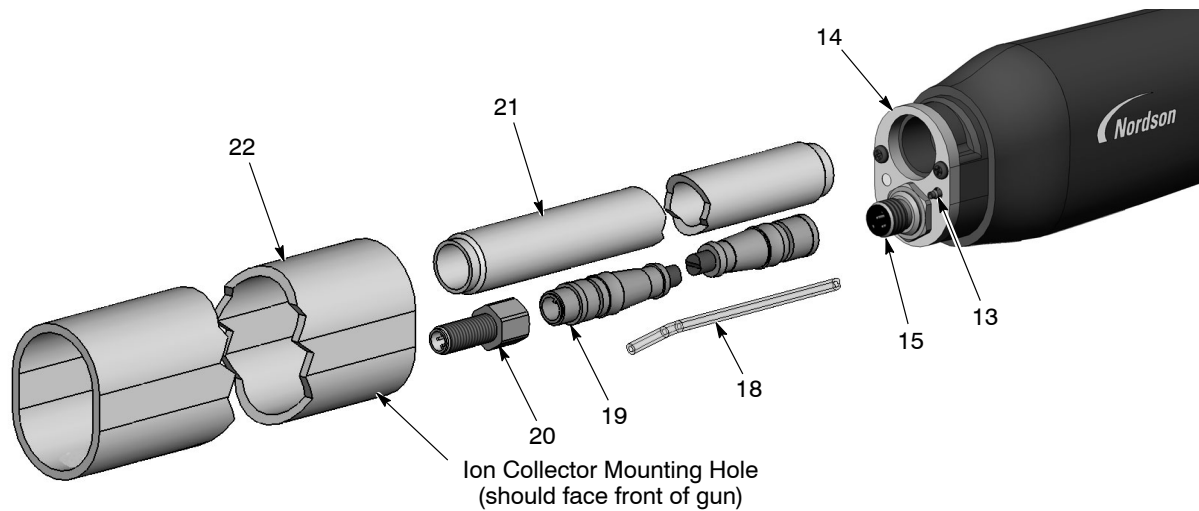
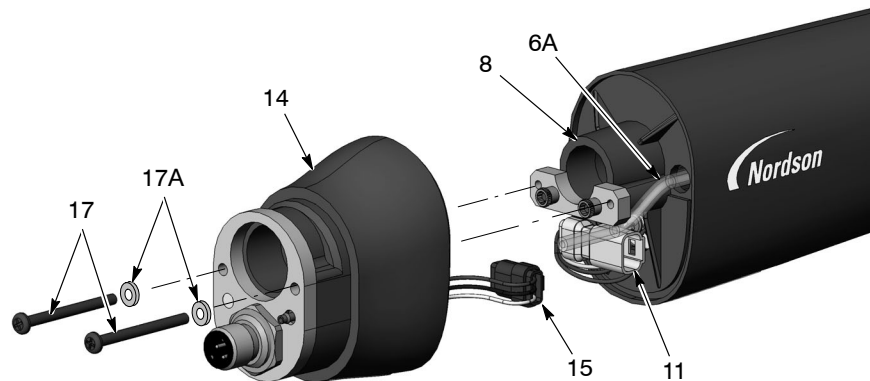
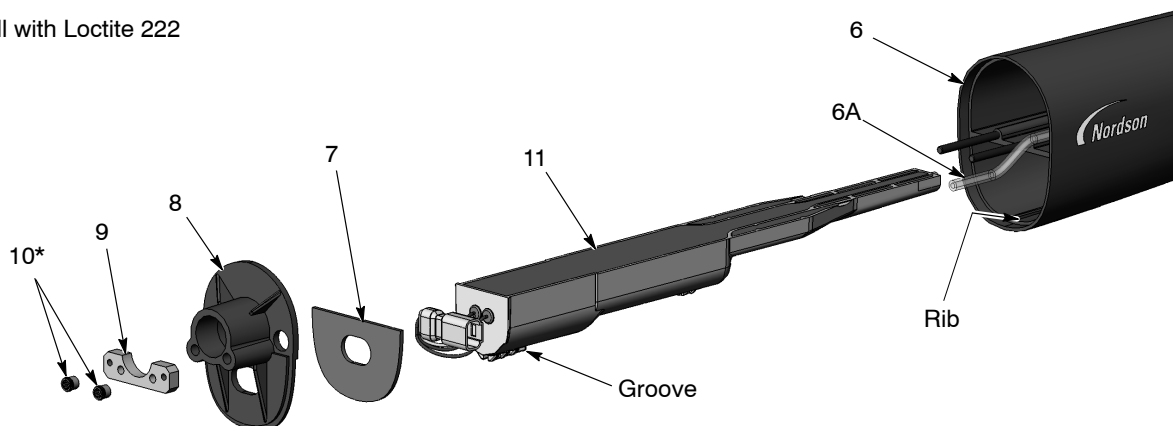

Figure 18 Tube-Mount Gun Disassembly 2 of 5
Figure 19 Tube-Mount Gun Disassembly 3 of 5
Figure 20 Tube-Mount Gun Disassembly 4 of 5
7. See Figure 18. Pull the mounting tube (22) off the rear body assembly (14) and over the clamping tube (21).
9. Disconnect the extension cable (19) from the receptacle harness (15).
10. Disconnect the clear 4-mm air tubing (18) from the barbed fitting (13).
11. If you are replacing the extension cable, remove the cable receptacle (20). If not, you can leave them connected.
12. See Figure 19. Remove the two socket-head screws (17) and lock washers (17A) from the rear gun body (14).
13. Carefully pull the rear gun body far enough off the bulkhead (8) to disconnect the power supply harness (11) from the receptacle harness (15), and the filter assembly tubing (6A) from the barbed fitting inside the rear body.
14. See Figure 20. With a $\frac{1}{8}$ -in. hex key, remove the two Allen nuts (10) and screw plate (9) from the bulkhead (8). Then remove the bulkhead from the gun body (6), feeding the power supply harness through the bulkhead.
1. See Figure 20. Install the power supply (11) into the gun body (6), making sure the gun body rib fits into the groove on the power supply. Seat the power supply firmly into the gun body.
2. Feed the power supply harness through the bulkhead (8), then install the bulkhead and screw plate (9) over the gun body studs. Apply Loctite 222 thread-locking adhesive to the Allen nuts (10) and thread them onto the studs. Torque the nuts to 0.45 N•m (64 inch-ounces) with a 1/8-in. hex key.
3. See Figure 19. Connect the receptacle harness (15) to the power supply harness (11). Tuck the harness connectors (11, 15) into the rear body assembly in the positions shown.
4. Connect the filter assembly tubing (6A) to the barbed fitting on the inside of the rear body. Feed any extra clear air tubing into the gun body, then install the rear body onto the bulkhead with the screws (17) and lock washers (17A).
5. See Figure 18. Screw the clamping tube (21) into the rear body (14).
6. Connect the extension cable (19) to the receptacle harness in the rear body assembly.
7. Connect the clear 4-mm tubing (18) to the barbed fitting on the rear body assembly.
8. Orient the mounting tube (22) with the ion collector hole facing towards the front of the gun.